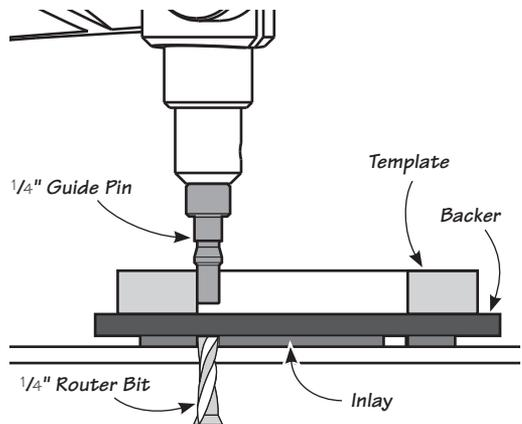

Figure 20: Cutting the inlay.
3. *Cut insert/inlay piece.* When cutting the inlay, both the inlay material and the template must be attached to a dividing spacer to keep pieces from floating around freely after cutting. After sandwiching the three pieces, replace the $\frac{3}{4}$ " guide pin with the optional inlay/signmaking guide pin (05J37.10), with the $\frac{1}{4}$ " end exposed. Set the bit height so that it cuts through the inlay material but not through the spacer material (**Figure 20**). Rout the inlay in a clockwise direction and remove